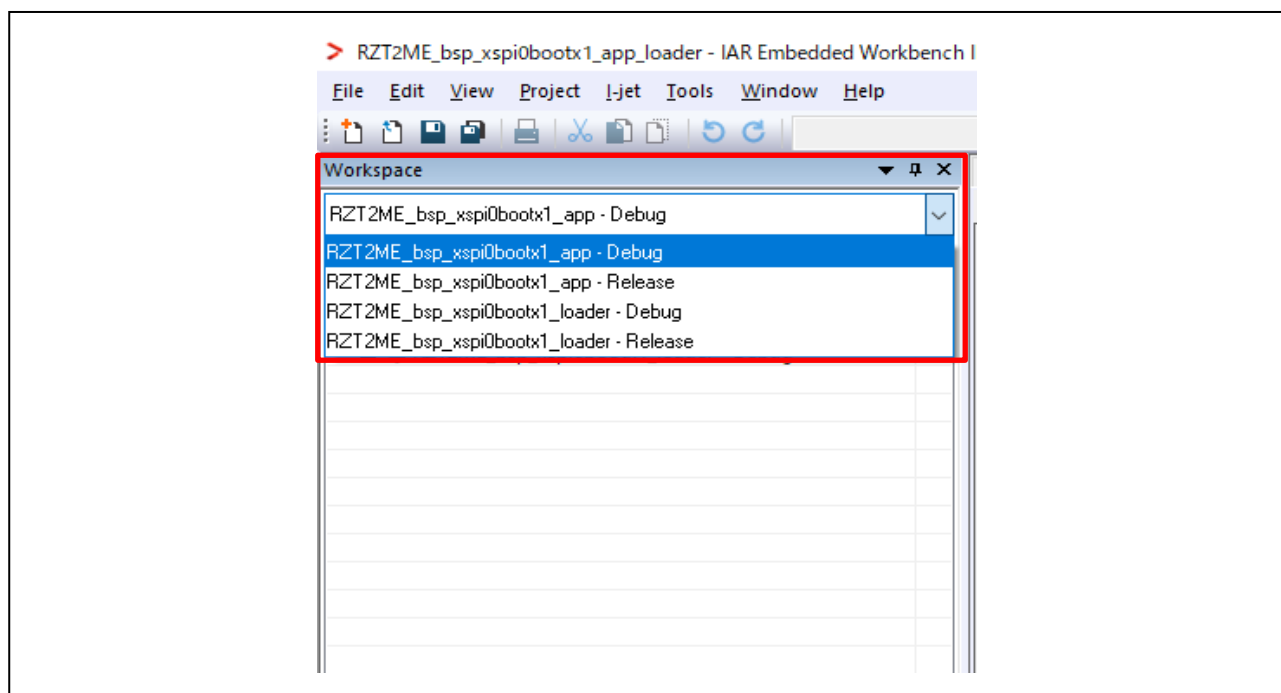

Figure 5-1 Project selection
2. Select "RZ/T2ME_bsp_xspi0boot1_app" project in Workspace box as Figure 5-1.